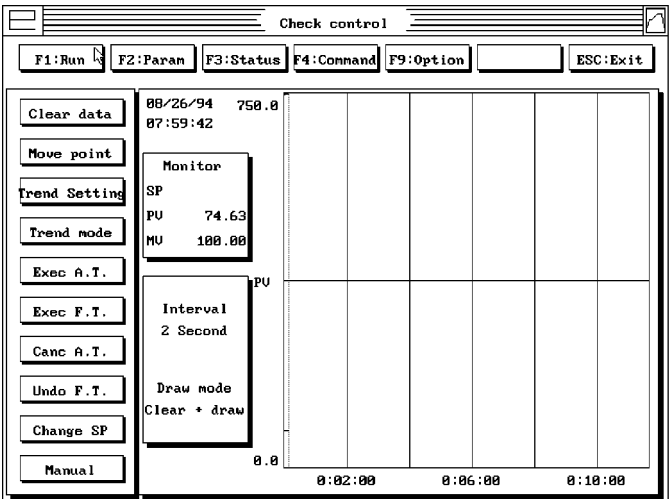

Figure 29
- 2. Select **F1:Run** from the **Check control** menu (Figure 29).